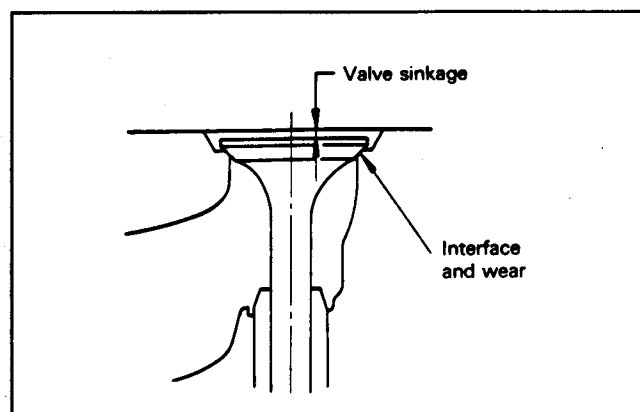

Figure 76
1. Check the valve seats for damage and indications of incorrect contact (Fig. 76).